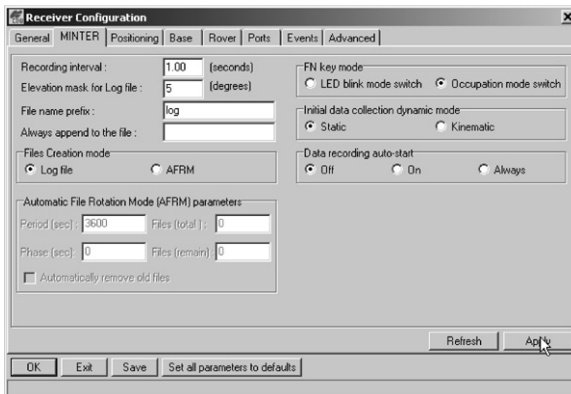

Figure 3-6. Rover MINTER Configuration
2. Using PC-CDU, click **Configuration->Receiver ->Minter**, configure the Rover with the following parameters, and click **Apply** (Figure 3-6):
2. Using PC-CDU, click **Configuration->Receiver ->MINTER**, and configure the Rover with the following parameters, then click **Apply** (Figure 3-6 on page 3-11):